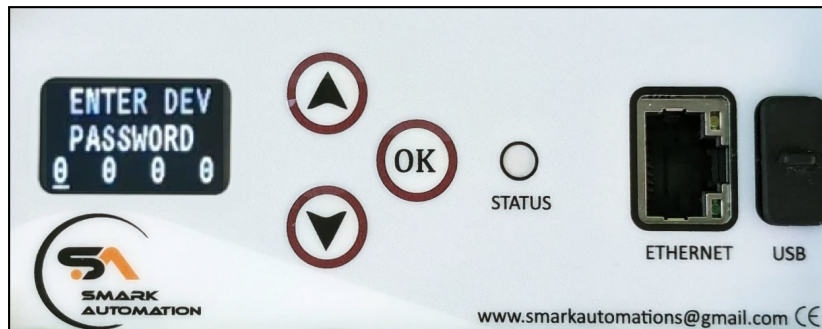

Figure 31: Entering Device Password
2. **Enter Device Password:** Press OK to enter the 4-digit device password. **The default password is 0609.** Enter the password to access options for resetting the web credentials and changing the admin section password as shown in Fig 31.